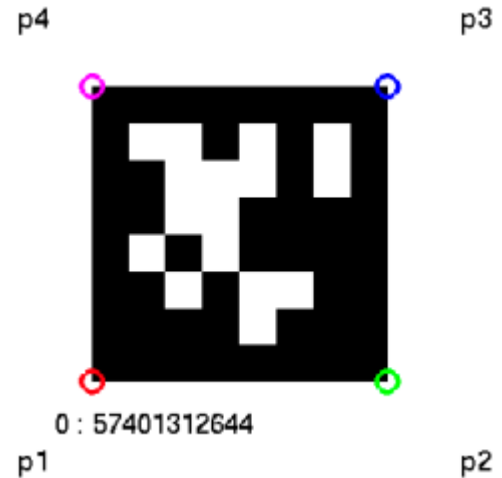

Figure 1: AprilTag example.
3. p1, p2, p3, p4 – Arrays with the four corners of every AprilTag in the image. The corners are given in the order bottom left (p1), bottom right (p2), top right (p3), and top left (p4), (see Figure 1). The i th column in each of these fields corresponds to the i th tag in the ID field. The values are expressed in image (pixel) coordinates.